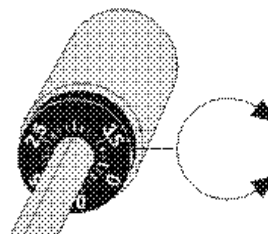

Fig. 5: Scale ring
- 7 The counterweight is provided with a black rotary ring with a scale. The marking line on the tone arm points to a value on this scale. Without turning the counterweight, only turn the ring to "0" (Fig. 5).